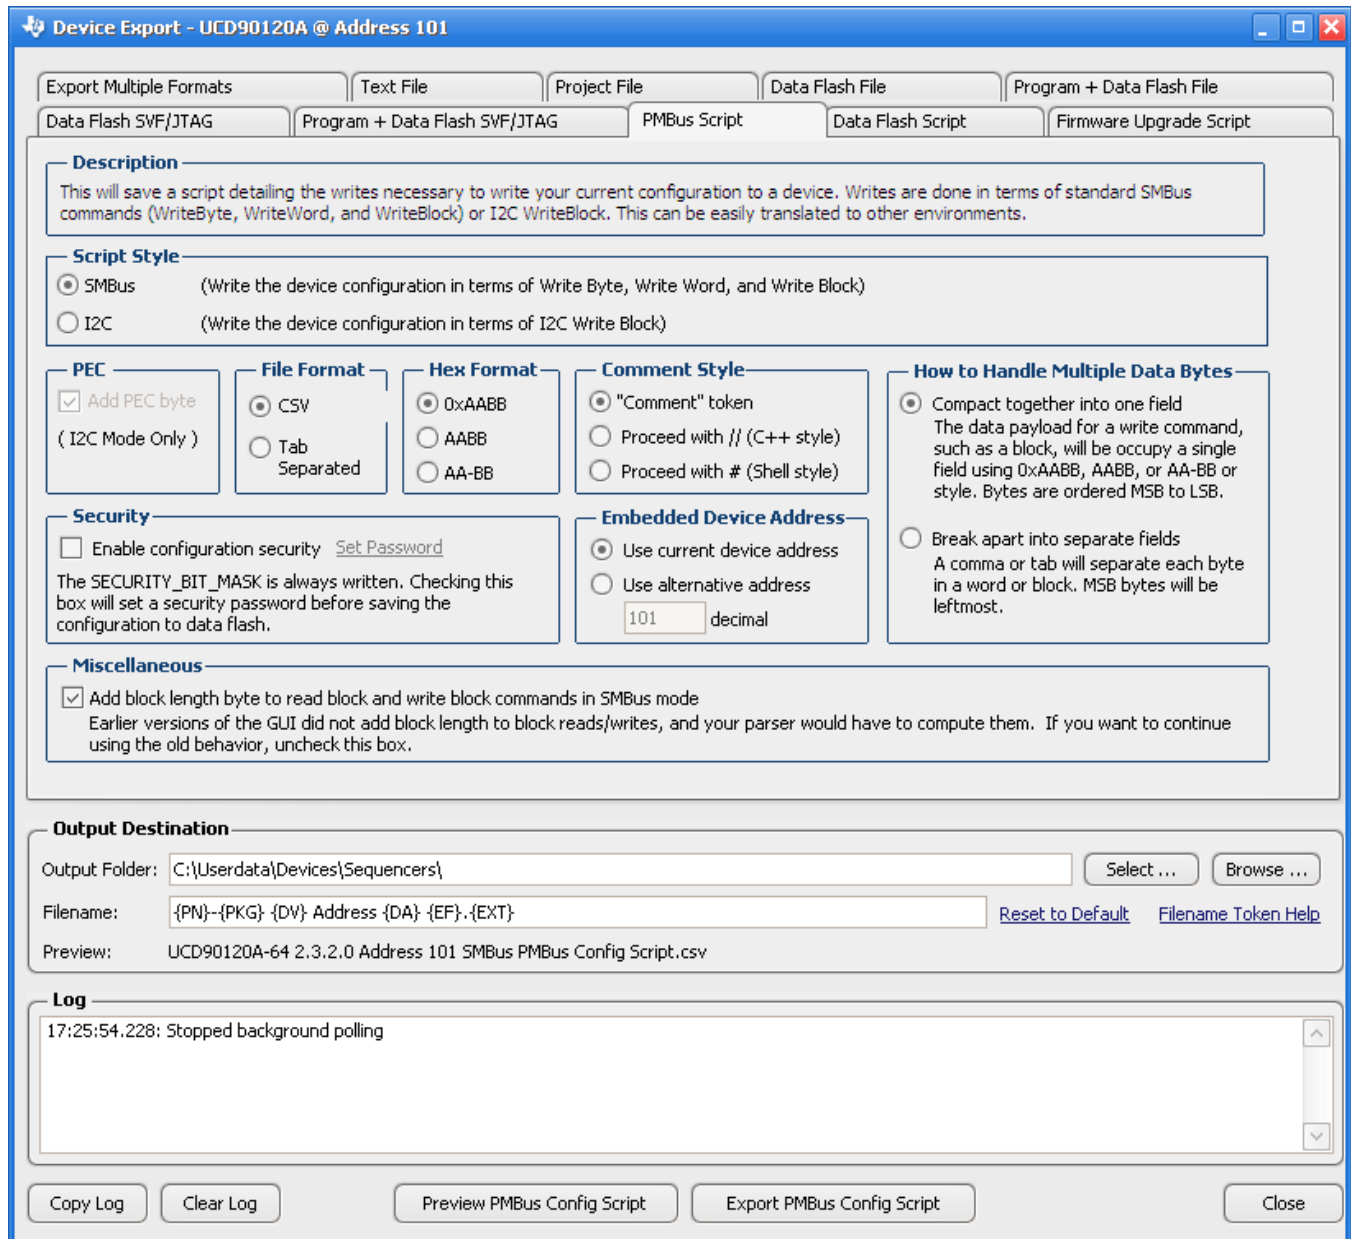

图 30. Fusion GUI PMBus Configuration Script Export Tool
2. The *Fusion GUI* (图 30) can create a PMBus or I²C command script file that can be used by the I²C master to configure the device. This method may cause unexpected behaviors on GPIO pins which can disable rails that provide power to device. It is not recommended for production programming.